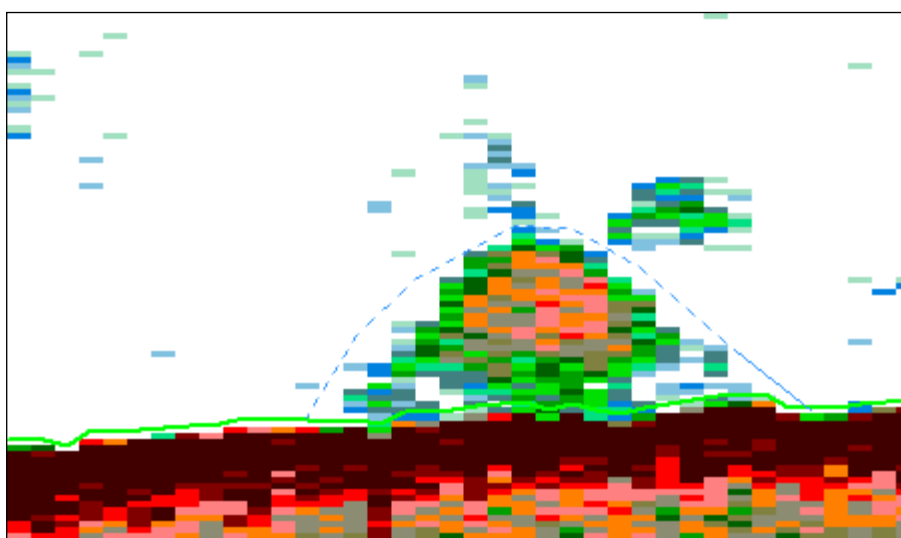

Figure 22. Echogram showing line drawing over bottom object.
31. Using the left mouse button, progressively click (or click and drag) from left to right over the artefact that appears to be just above the bottom (see Figure 22). **Note:** The line edits you make can be finer than single pings and single-sample depths.